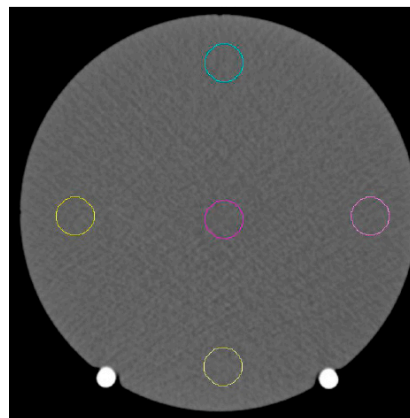
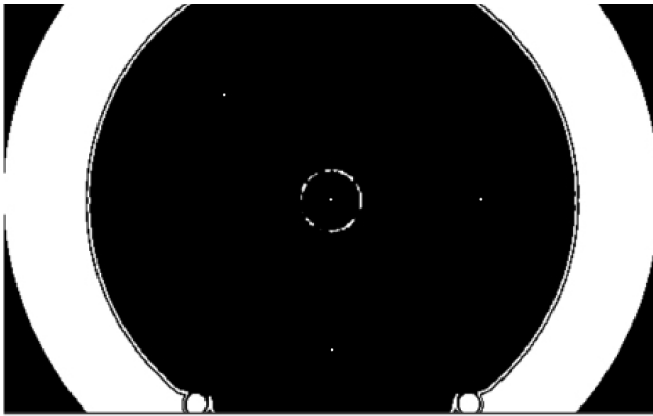

FIGURE 1. ROI MEASUREMENTS
FIGURE 7.
To evaluate the uniformity using the above formulas it is recommended that at least five ROI measurements are taken (Figure 1). The ROI should be approximately equal in size and should encompass an adequate number of pixels.
- Then, using a very narrow window adjust the level close to that maximum value (Figure 1), which will show just the pixels that have the maximum CT Number value. The distance measurements should be done between these pixels (Figure 7. Note that the distance at 45° may not equal the mathematically calculated distance because the measure distance tool jumps from center of pixel to center of pixel).